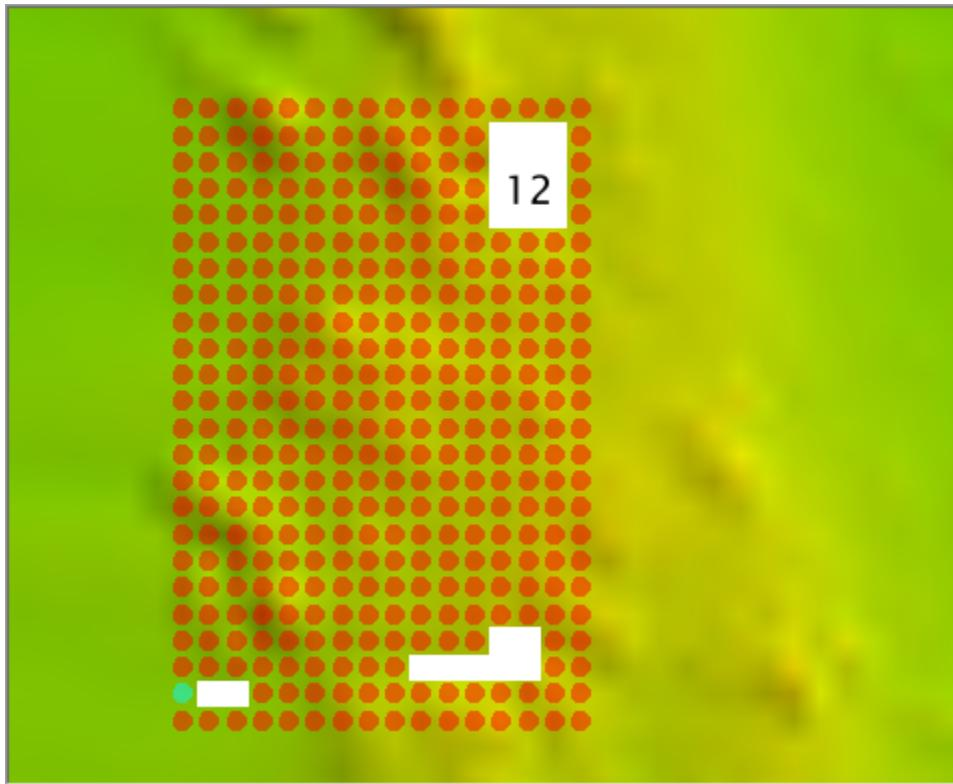

Fig. 2.22: Example for Full coverage.
- In the example in (Fig. 2.22), Full Coverage requirements identify the hole of 12 grid nodes, because there it contains an instance of 3x3 unpopulated grid nodes. The holes with 7 and 2 nodes do not.